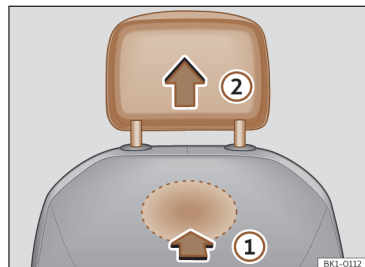

Fig. 72 Front head restraint: removal.
- To unlock it, look for the rabbit on the bottom of the backrest and press in the direction of the arrow >>> **Fig. 72 ①**.
- Remove the head restraint in the direction of the arrow ②.